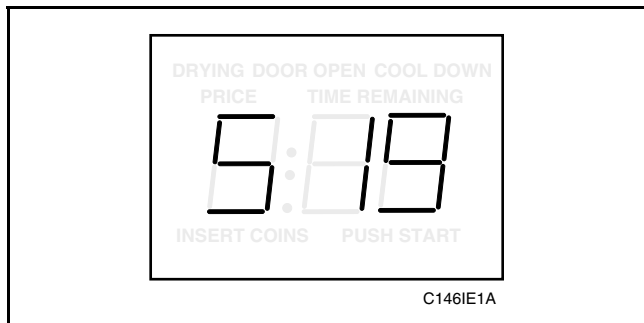

Figure 34
2. While pressing and holding the HIGH TEMP pad with one hand, press the MED TEMP pad with the other hand. Programmable option number 1, (Audio Signal “SIg”), will appear in the VFD, *Figure 34*.